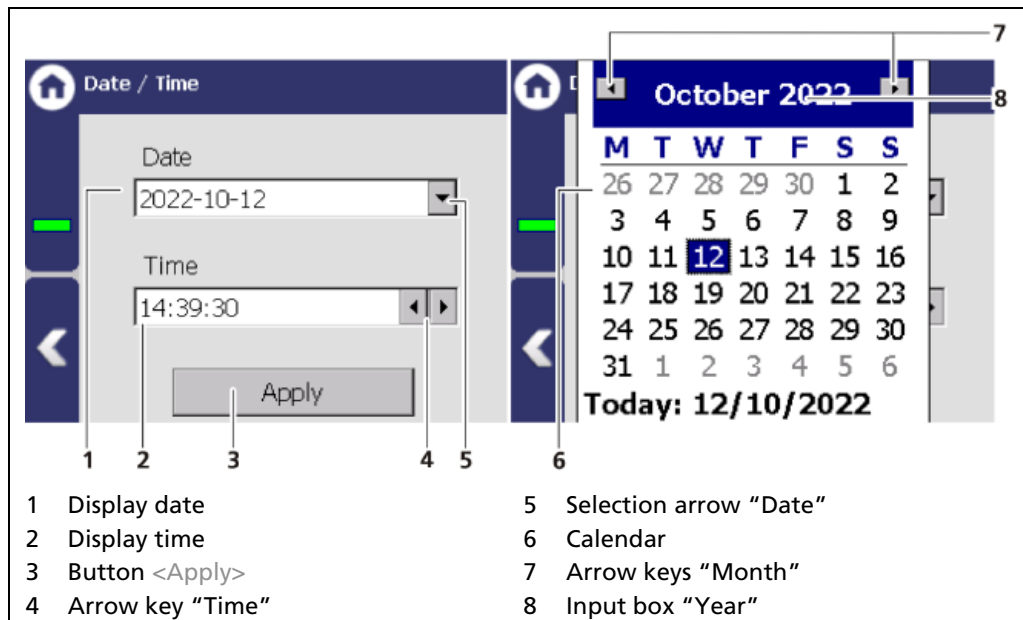

Fig. 30 Date / Time, calendar
1. Click on the arrow key (Fig. 30, item 5) in order to set the date.
- The calendar is opened (Fig. 30, item 6).
2. Click on the year number (Fig. 30, item 8) in order to enter the year.
3. Set the month (Fig. 30, item 7) by clicking on the arrow keys.
5. Change the time by clicking on the arrow keys (Fig. 30, item 4).
6. Click on <Apply> (Fig. 30, item 3), to accept the date and time settings.